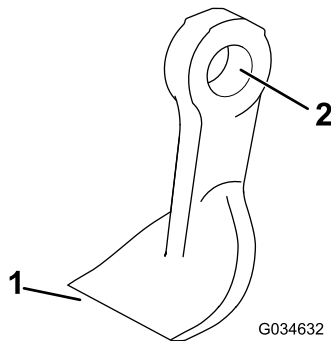

Figure 75
4. Inspect each blade for damage paying particular attention to the fasteners, cutting edge, and installation hole (Figure 75). Replace all damaged blades and fasteners.